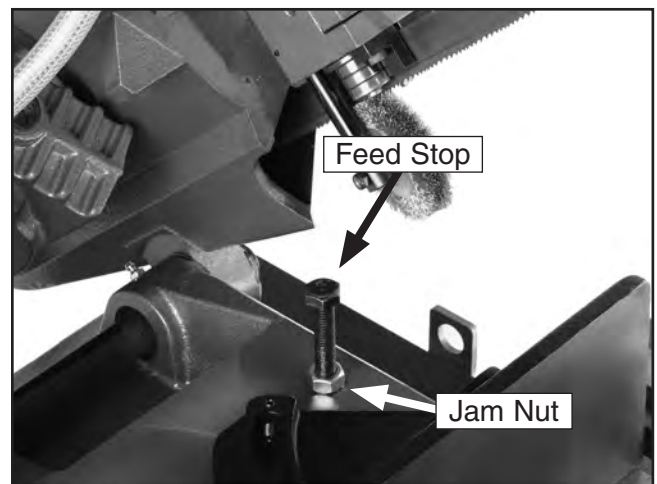

Figure 11. Feed stop.
1. Adjust the feed stop bolt and jam nut (**Figure 11**), so the bandsaw blade teeth are just below the vise table surface when the cut is complete.